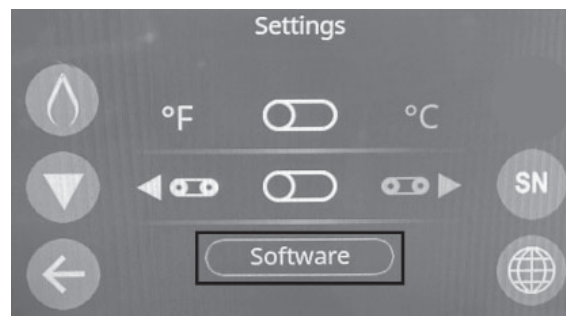

Figure 24
5. Software Update - Press the "Software" button highlighted below in (Figure 24) to update the UI to the newest version.
- 1. Press the Diagnostics button on the Home screen to access this mode. (Figure 24)